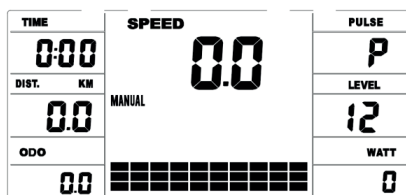

Figure 1
- A.** Press the UP/DOWN button to start training in manual mode (Fig. 1) or in one of the preset programs: